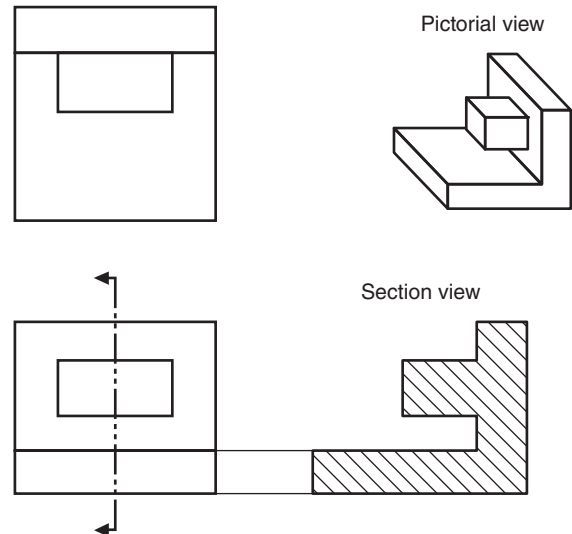

Figure 3-25 The section view as it would be drawn, showing the rectangular center tab to be solid metal.
11. They should point to the left, as shown in Fig. 3-25. Either or both of these answers are correct. (A) Because the placement of the section view means that the view is seen as though material is removed to the right (behind the left-facing arrowheads) of the cutting plane line. (B) Because the section view’s perspective is from the right side of the part as though you were looking toward the opposite side (left in the front view).